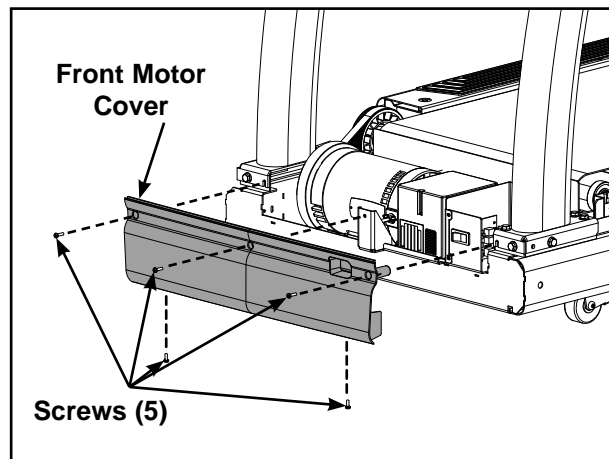

Figure 9
- D. Using a Phillips screwdriver, remove the five screws securing the front motor cover. See Figure 9. **NOTE:** The treadmill will need to be elevated or tipped on it's side to remove the two lower screws.
- A. Slide the rear roller into the running belt. See Figure 9.